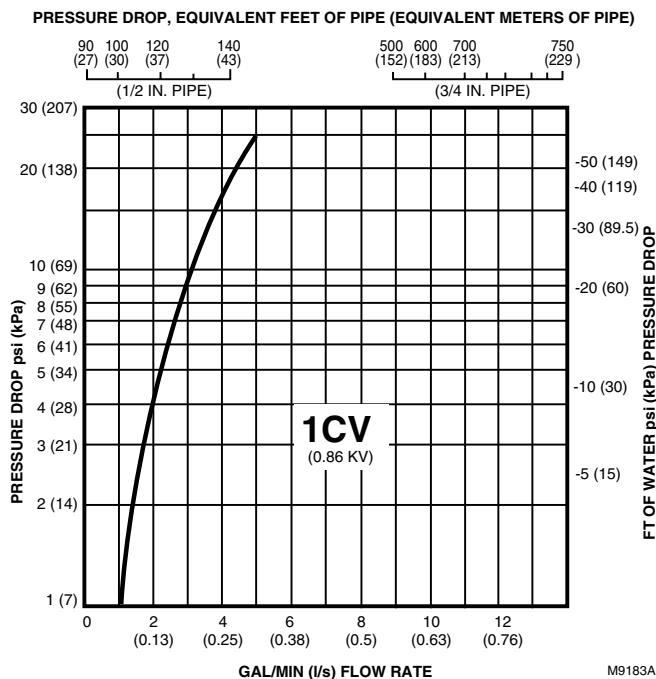

Fig. 3. Flow characteristics of 1 C_V (0.86 kV) flow.
The pressure drop in psi (kPa), equivalent ft (m) of pipe, or feet of water (kPa) can be calculated from Fig. 3 through 8 as follows:
- 3 Select the graph corresponding to the C_V (kV) rating (Fig. 3 through 8).